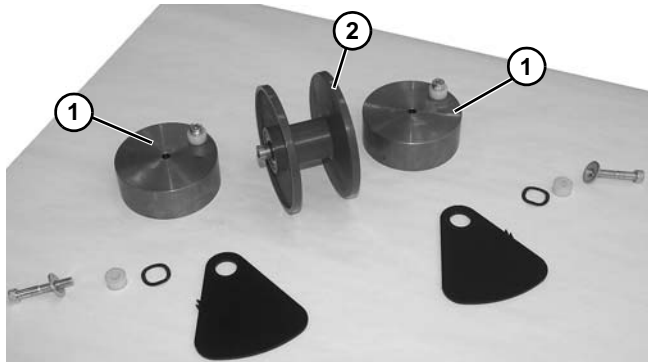

Figure 141
- Remove weights (**Figure 141, item 1**) from each side of pulley (**Figure 141, item 2**).